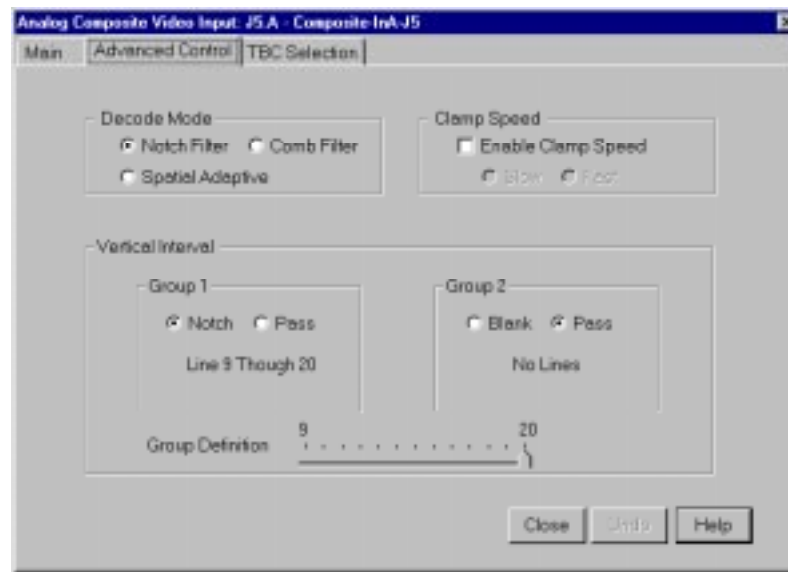
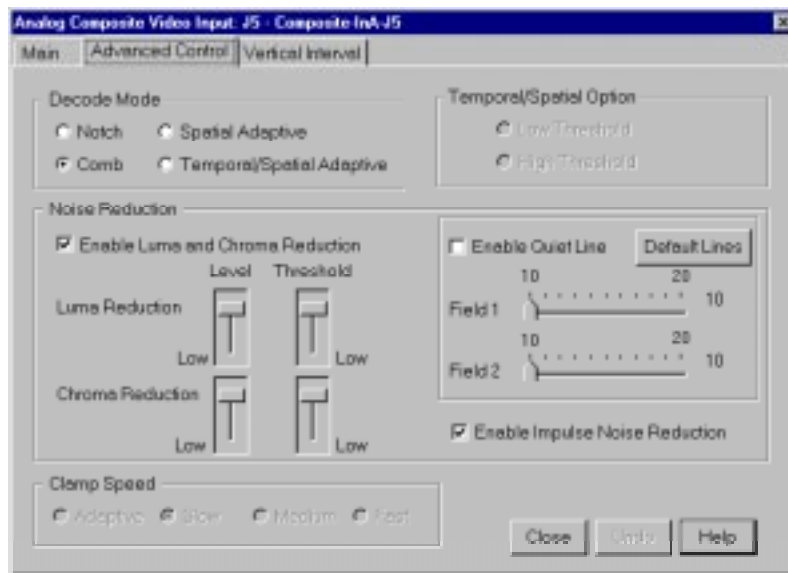

Figure 15. Analog Composite Video Input dialog box, Advanced Control tab (A)
Figure 16. Analog Composite Video Input dialog box, Advanced Control tab (B)
1. Click or double-click on the **Advanced Control** tab to view it (Figure 15 shows the dialog box for the most recent analog composite video cards while Figure 16 shows the dialog box for earlier cards).